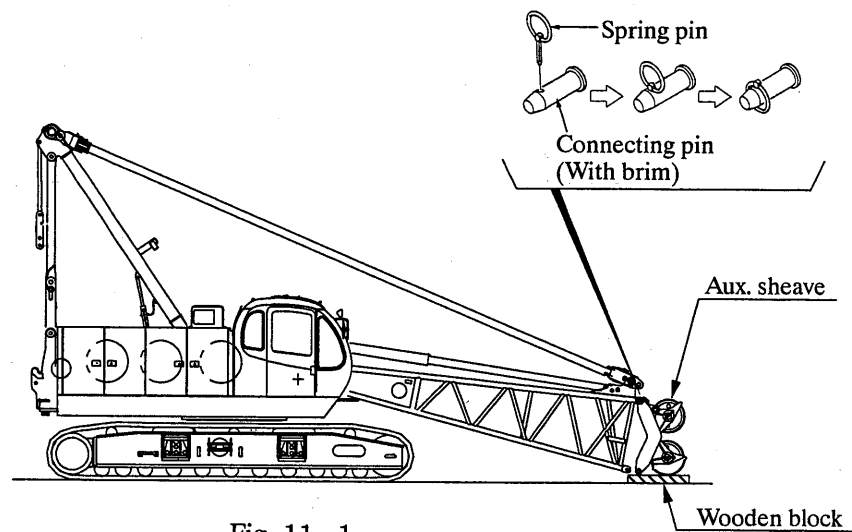

Fig. 11-1
- (1) Align the auxiliary sheave for crawler removal with the pin hole located on the upper side of the boom base. Then, drive in the pin, and insert the spring pin. For easier alignment with the pin hole, place a wooden block under the auxiliary sheave. (Fig. 11-1)